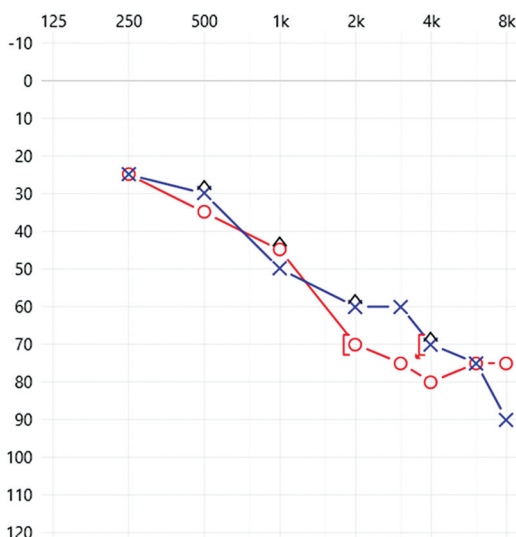

Figure 10 Audiogram for Activity 3.
3. Select the appropriate hearing instrument style (e.g., BTE, RITE) (see Figure 10).
6. Enter the patient’s audiogram (HL thresholds) in the Audiometric entry screen (use the data in Figure 10).